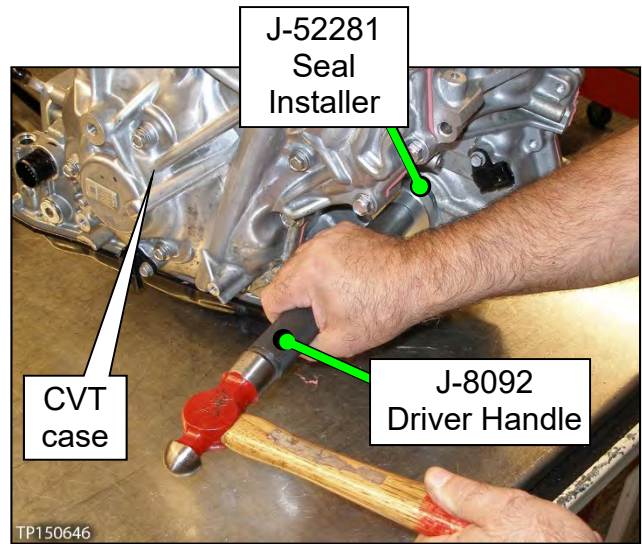

Figure 119
89. Install the CVT case side axle seal (Figure 119).